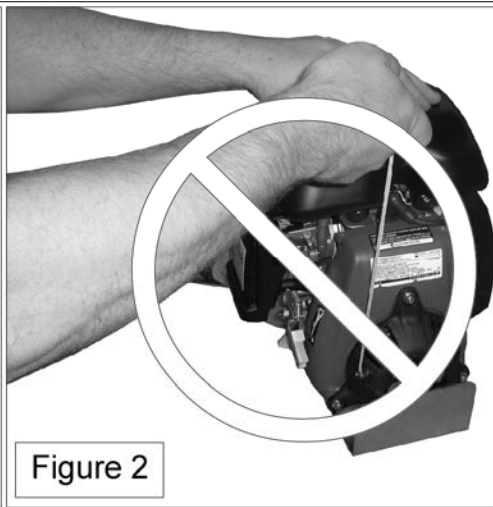

Figure 2
Make sure to pull on the recoil starter in the axis of the rope outlet (figure 1 below). If you pull vertically (figure 2), the friction of the rope on the plastic cover might damage the rope and/or the cover.
- 2) Remove the bolt located at the end of the drum shaft (figure 2);